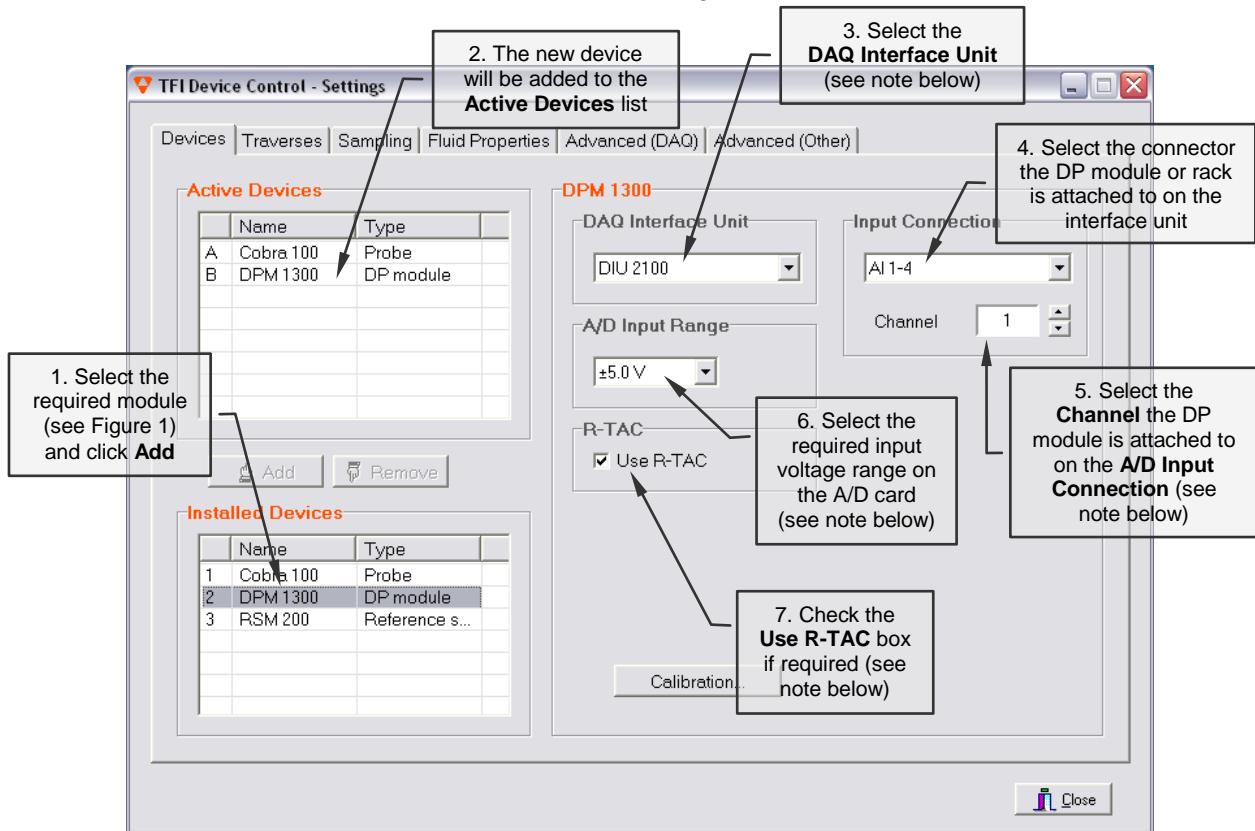

Figure 5: Software configuration – Adding and configuring devices
- To choose and configure the devices that you wish to use, select the **Devices** tab (or choose **Devices** from the **Settings** menu) and refer to Figure 5.
- Repeat the steps shown in Figure 5 for each additional DP module or other device.
- i** If a module is connected directly to the Interface Unit, it is always connected to the first channel listed on the socket, e.g. if a module is directly connected to **AI 1-4** on the Interface Unit, it is on channel 1. This information is required for step 5 in Figure 5 of the Software Configuration.
- i** When a rack is connected to the Interface Unit, e.g. to socket **AI 5-8**, slot A corresponds to the first channel (e.g. channel 5), slot B corresponds to the second channel (e.g. channel 6), slot C corresponds to the third channel (e.g. channel 7) etc. This information is required for step 5 in Figure 5 of the Software Configuration.